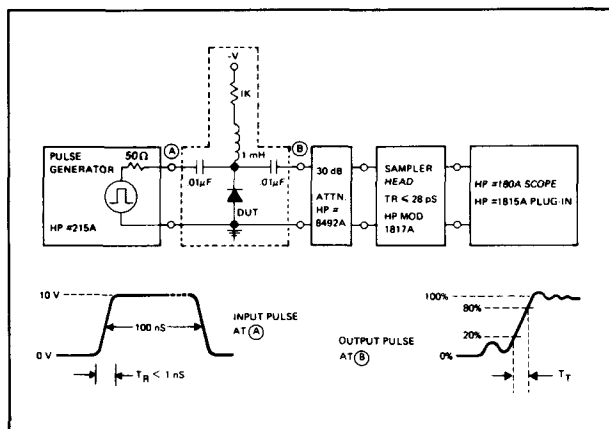

Figure 4. Transition Time, T_T , Test Set-Up
limiting values of τ and T_T . Test circuits to determine τ and T_T are shown in Figures 4 and 5.
3. Measured in Circuit of Figure 4; $I_F = 10$ mA, $V_R = 10$ Volts